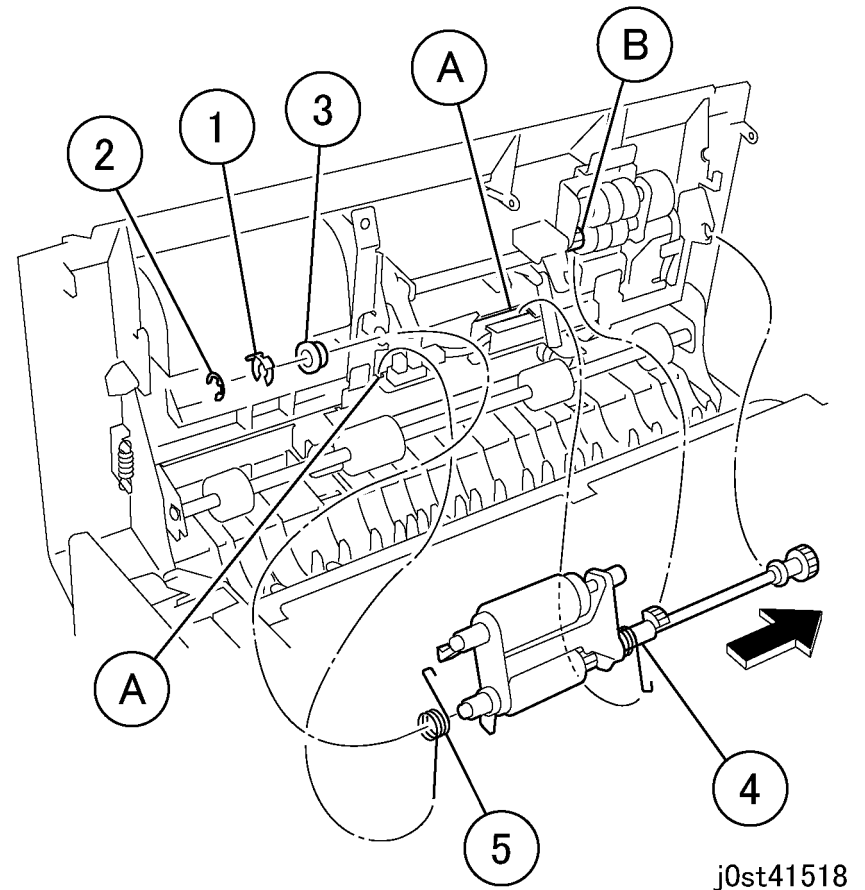

Figure 3 Removing the Nudger/Feed Roll Assembly (j0st41518)
- Remove the Nudger/Feed Roll Assembly. (Figure 3)